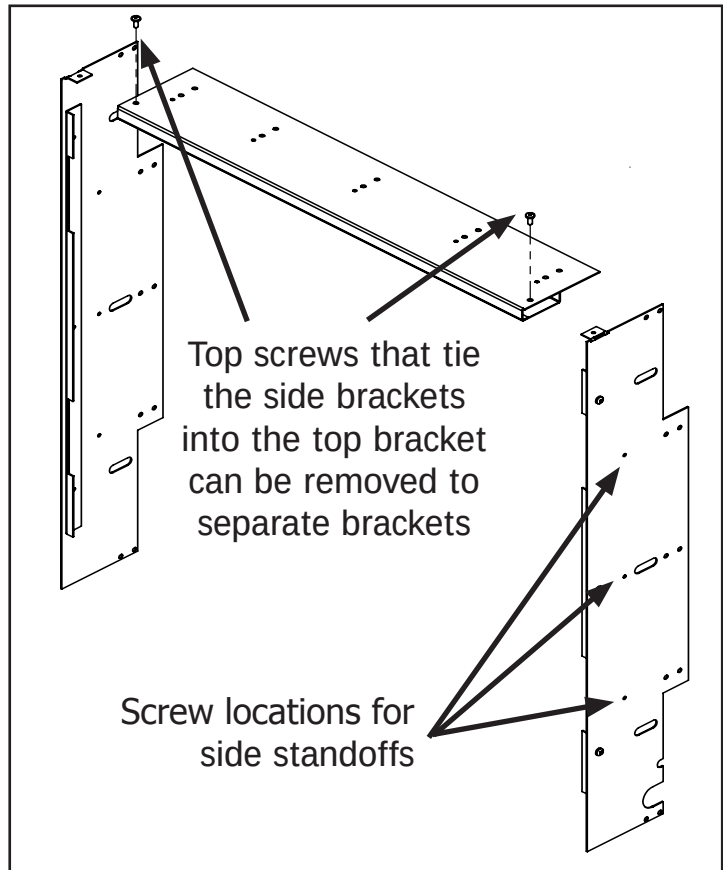

Figure 27: Removing Extension Brackets
5. Install the side standoffs (if required) onto the side extension brackets using the forward set of free holes. Adjust the depth of the side standoffs as needed (see Figure 27). Also see the INITIAL INSTALLATION - STANDOFFS section of the manual.